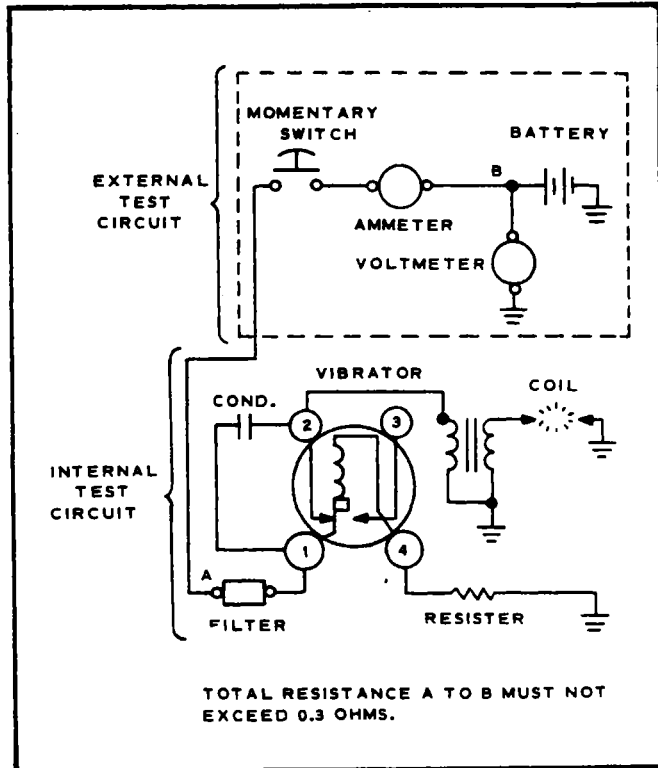

Figure 13-22. Wiring - Test Setup
- f. Arrange the test equipment as shown in Figure 13-22.